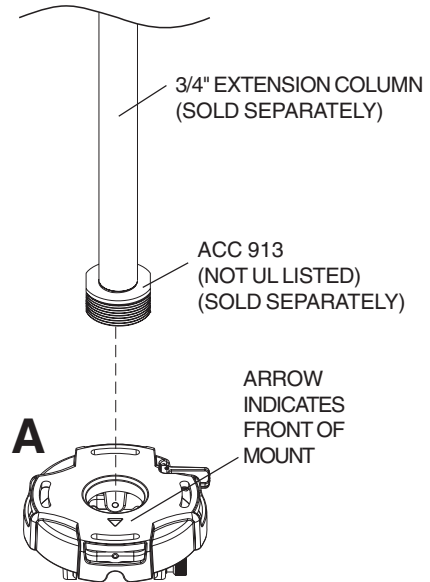
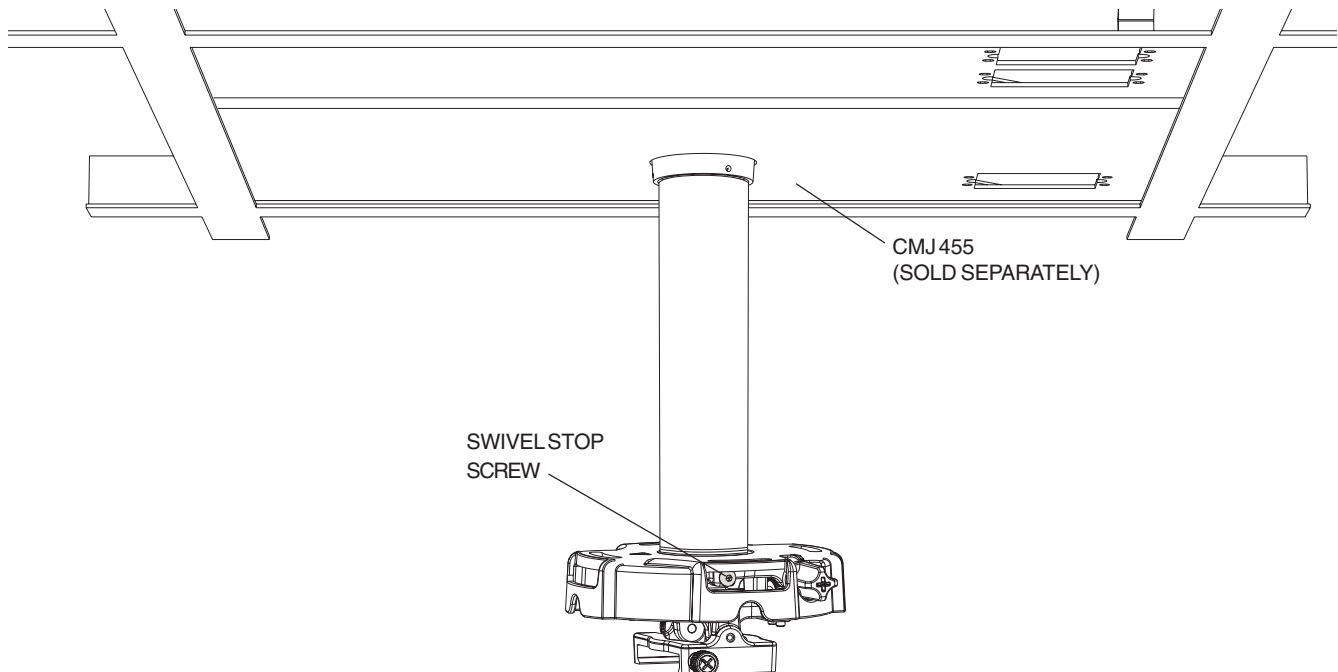

fig. 2.2
fig. 2.3
NOTE: For 3/4" extension columns, reducer ACC 913 (not included) will be required as shown in **figure 2.2**. Tighten swivel stop screw against extension column, flush mount tube or reducer using 4 mm security allen wrench (B) as shown in **figure 2.3**.